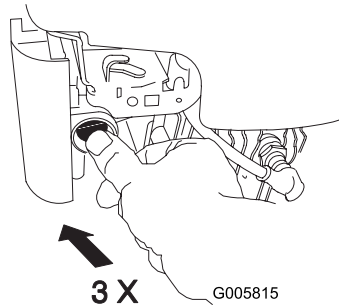

Figure 12
1. Firmly push in the primer 3 times with your thumb, holding the primer in for a second before releasing it each time (Figure 12).